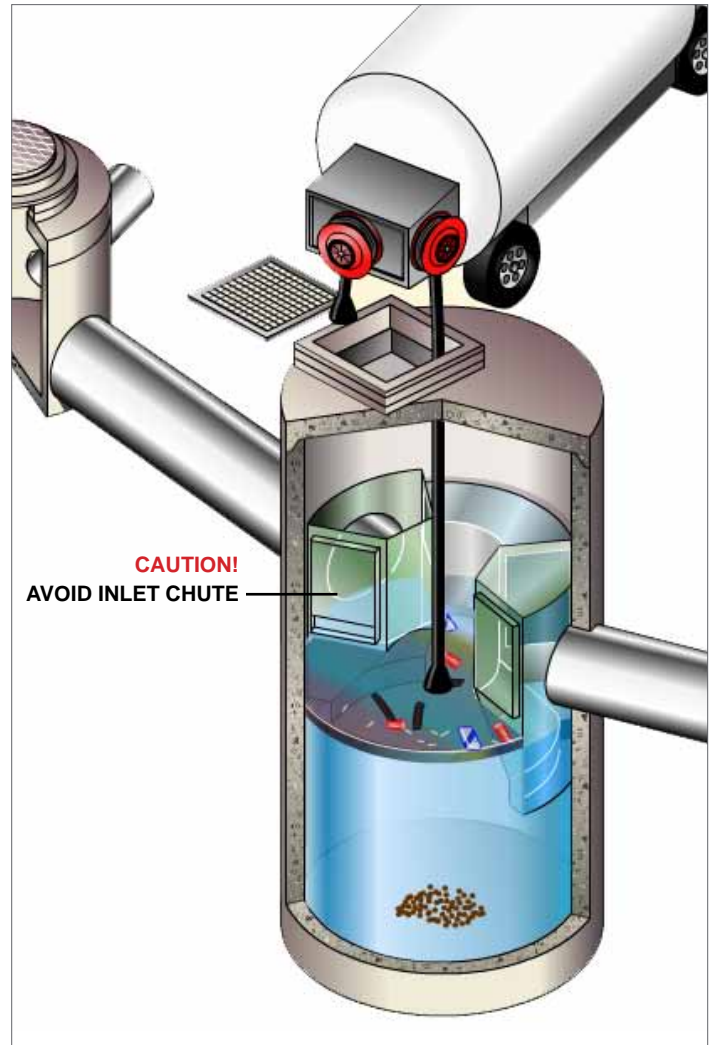

Fig.2 Floatables are removed with a vactor hose.
3. Without entering the vessel, look down into the chamber to inspect the inside. Make note of any irregularities. Fig.2 shows the standing water level that should be observed.
Floatables cleanout is typically done in conjunction with sediment removal. A commercially or municipally owned sump-vac is used to remove captured sediment and floatables (Fig.2).
4. Remove oil and floatables stored on the surface of the water with the vactor hose (Fig.2) or with the skimmer or net (not pictured).